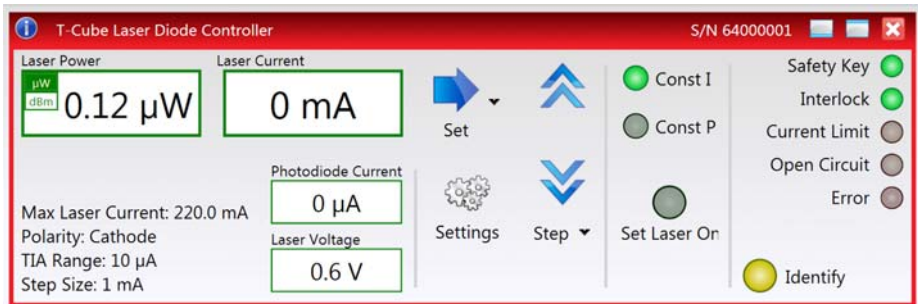

Fig. 5.1 Laser Driver Software GUI
- 8) Run the Kinesis software - Start/All Programs/Thorlabs/Kinesis/Kinesis. The server registers automatically the units connected on the USB bus and displays the associated GUI panels as shown in Fig. 5.1..